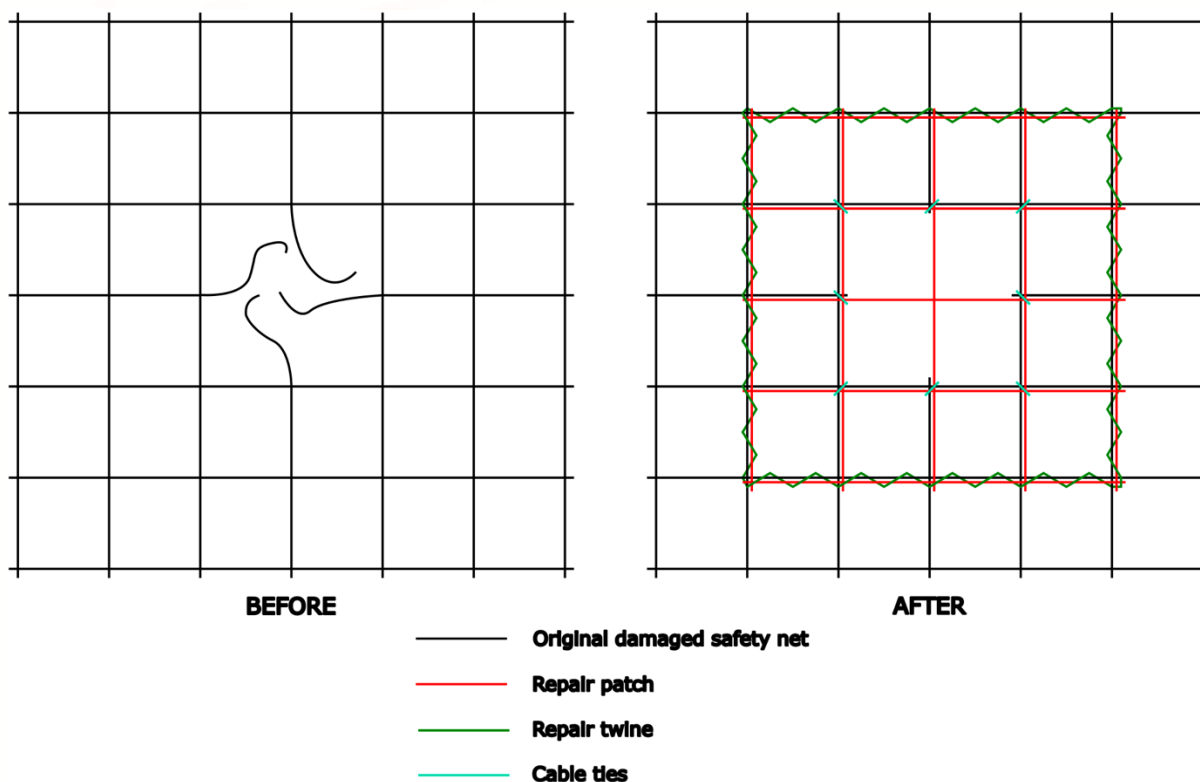

Figure 2. Patch repair using repair twine and cable ties.
- By lacing repair twine through the perimeter meshes of the patch and using cable ties to attach the inside (only) mesh (Figure 2).